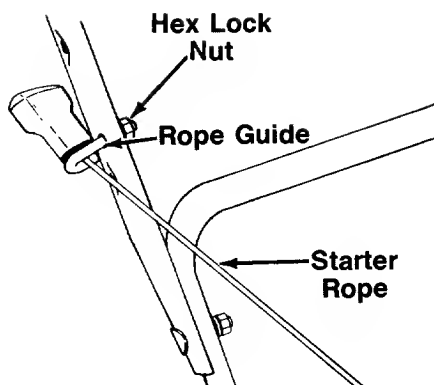

FIGURE 7.
3. Place the rope guide around the starter rope, so the rope guide bends downward as shown in figure 7.